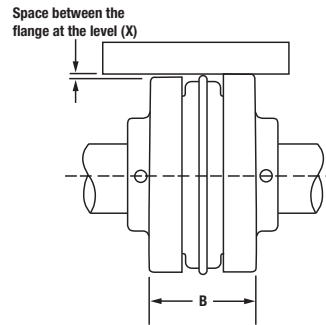

Figure 3 - Parallel Measurement
**NOTE:** Check the parallel offset by laying a straight edge across the OD of the flanges (Figure 3) in four places 90° apart without rotating the coupling. If the gap between the flange and straight edge exceeds the value shown under "Parallel" in Table 1, realign the shafts.